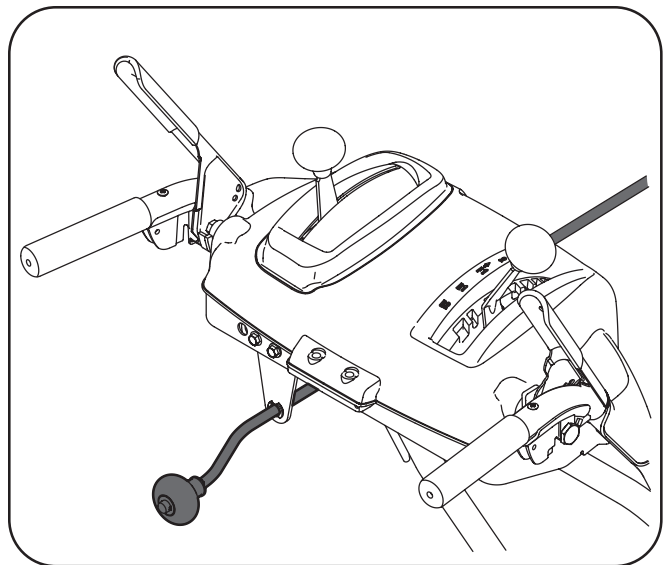

Figure 3-6
- Guide the chute crank rod through the bracket located on the rear of the handle panel. See Figure 3-6.